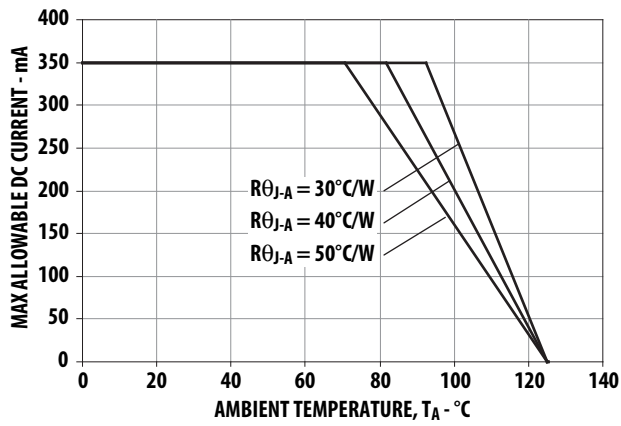
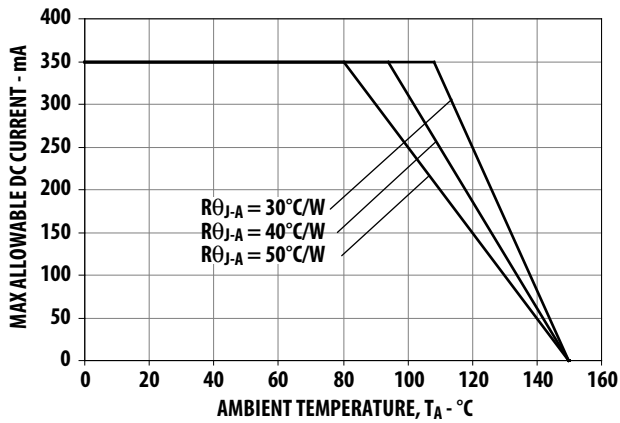

Figure 7. Maximum Forward Current vs. Ambient Temperature. Derated based on T_{JMAX} = 125°C, R_{θJ-A} = 30°C/W, 40°C/W and 50°C/W
Figure 17. Maximum Forward Current vs. Ambient Temperature. Derated based on T_{JMAX} = 150°C, R_{θJ-A} = 30°C/W, 40°C/W and 50°C/W
1. Derate linearly based on Figure 7 for AllnGaP and Figure 17 for InGaN.